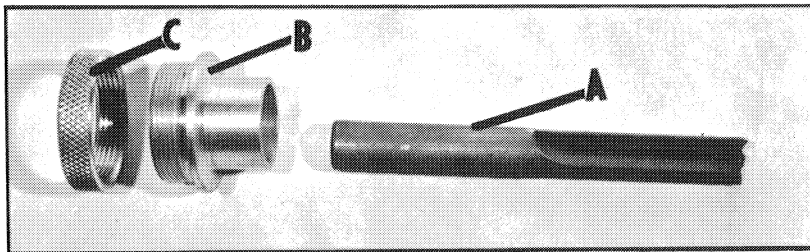

Fig. 12
A wide variety of templet guides is available for use in pattern and templet routing operations. Fig. 12 shows a typical combination (A) Bit, (B) Templet Guide, and (C) Locknut. To install, insert Templet Guide in center hole in router base and secure in place with the Locknut.